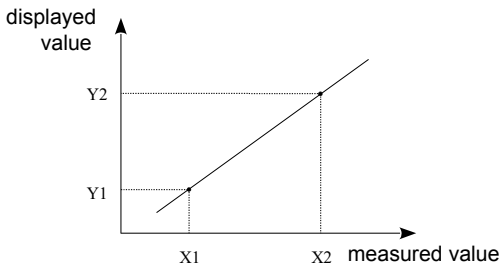

Fig. 8. Individual characteristic
- The configuration of the individual characteristic consists in defining the points of the linear characteristic used to convert the measured value into the displayed value (Figure 8).